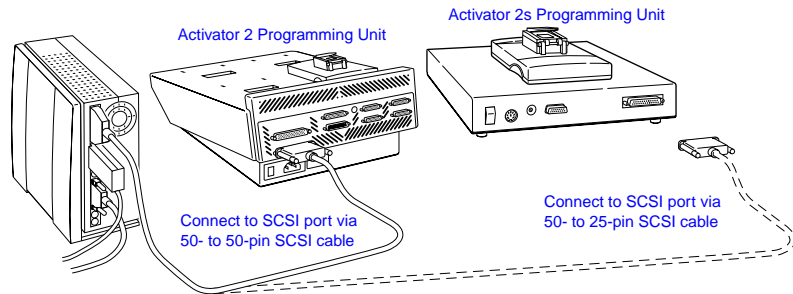

Figure 3-1. Activator 2 and 2s Workstation Connections
4. **Connect the Activator to the workstation using the supplied SCSI cable.** Connect one end of the cable to a SCSI connector on the Activator rear panel (you can use either connector on the Activator 2) and tighten the locking screws. Connect the other end of the cable to the SCSI connector of the workstation and tighten the locking screws or make sure the micro-miniature SCSI connector has snapped into place. See Figure 3-1 on page 22 for the location of the SCSI connectors.